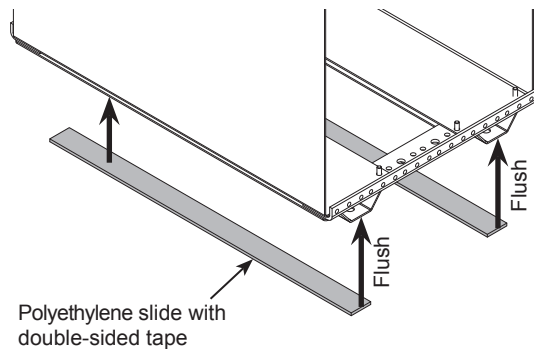

Figure 2
1. Apply the polyethylene slides to the brackets as shown. **Figure 2.** Each slide should be placed flush with the edge of the bracket.